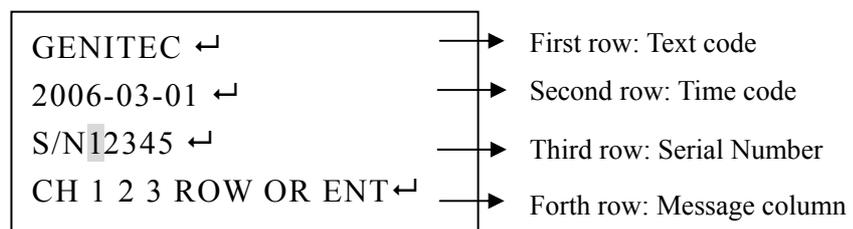

Figure 30
8. When CAUSER blinks on the third row, please press the button  and then it will skip to the position, which will do the modification. (Refer to figure 30) :